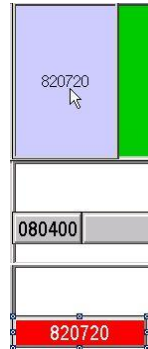

Figure 134: Highlighting Processes
1) Move the mouse pointer slightly over the bin. The assigned process will be selected and highlighted. *Please refer to the Figure 134.*